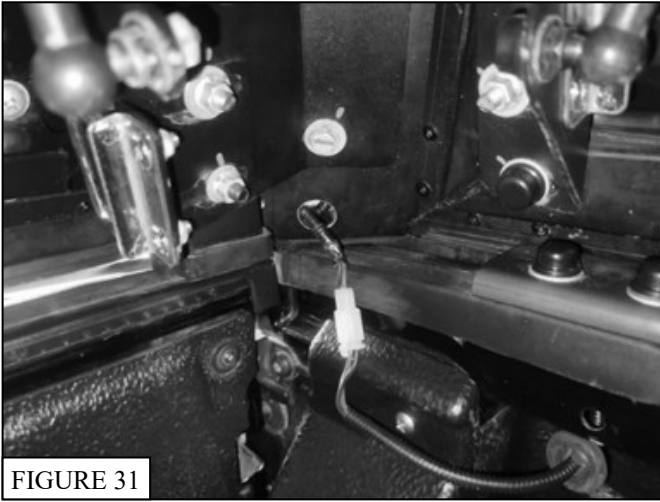
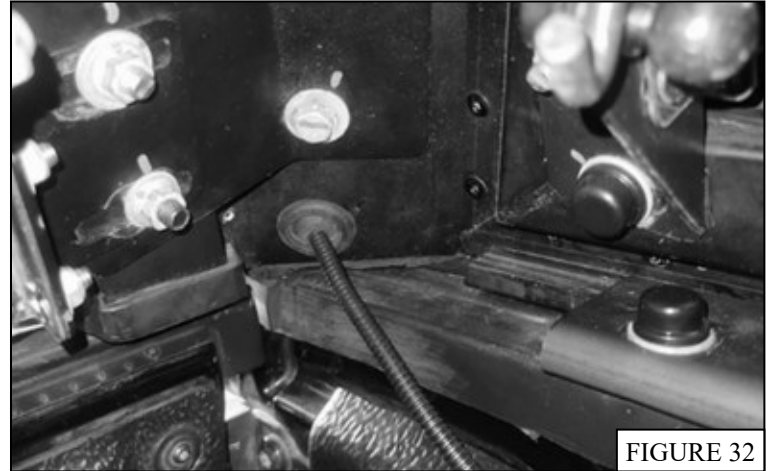

FIGURE 31
FIGURE 32
22. Plug the provided interior light wiring harness (**Item 11**) at the connector coming from the rear driver side of the topper (**Fig 31**). Tuck the harness into the topper using the rubber grommet (**Fig 32**). The other end of the harness will need to go to the vehicle's battery. Route the harness underneath the vehicle, make sure to avoid any moving parts.